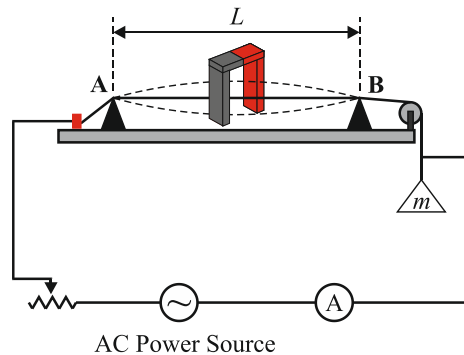

Figure 2.1. *Experimental setup*
The experimental setup is shown in Fig.2.1. One end of the wire (length of L) is attached to the point A while the other end is connected to a pan by passing the wire over the right wedge and a fixed pulley on the point B. Various masses are put on the pan to change the tension of the wire with different forces. The U magnet is placed at $L/2$ and the wire is laid between the poles of the magnet. The wire is connected to a rheostat and the output of an AC power supply and an ammeter at the points A and B, respectively.
1. Set the experiment up as shown on the Fig.2.1.
6. Turn the power supply off, find the total weight by measuring the mass of the pan and masses that you used ($P = mg$). Measure the length of the wire (L) located between A and B points.